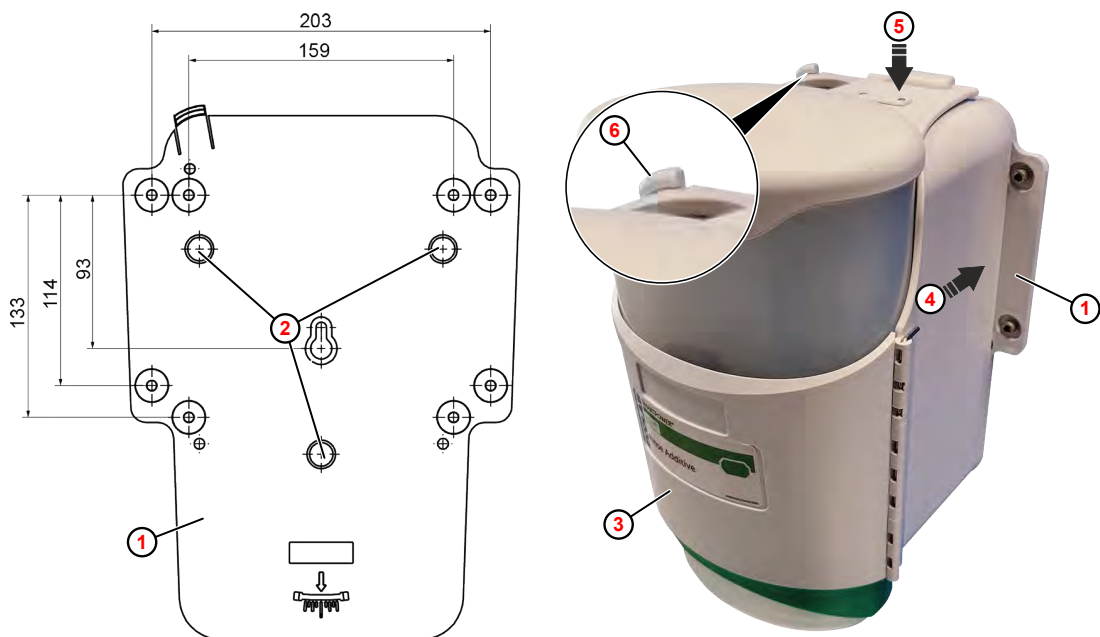

Fig. 3: Mounting the unit (with the rinse dispenser as an example)
1. Select the final location of the SMARTPOWER™ RTU Dispenser and drill holes in accordance with the Fig. 3 .
3. Attach the mounting plate ① with dowel screws.
4. SMARTPOWER™ RTU Dispenser ③ ② Put ④ the on the retaining pins.
5. SMARTPOWER™ RTU Dispenser Press the down ⑤ until the locking tab ⑥ on the top of the unit clicks into place.